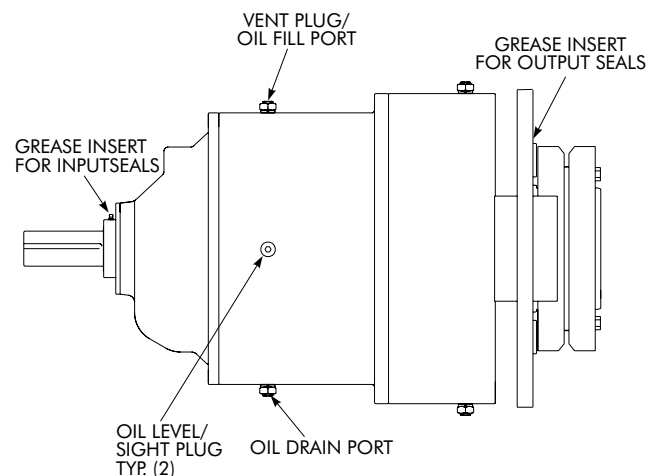

Figure 5.1
3. Remove oil fill plug (vent plug) and one of the two oil level plugs; reference Figure 5.1.
1. Clean grease inserts, reference Figure 5.1 for location.